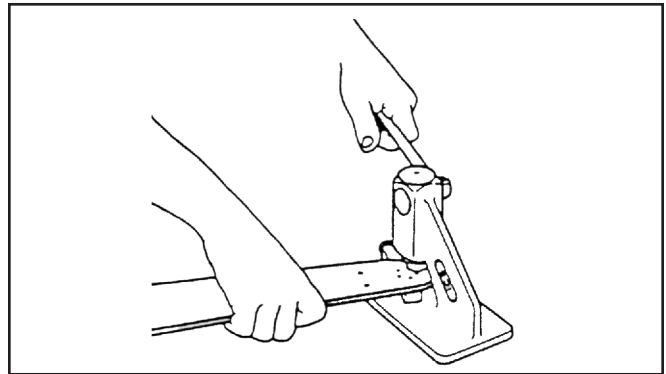

Figure 25. Punching Out Nose Sprocket Rivets
1. Using the bench mounted chain breaker (see accessories), line up the 1/4 inch hole in the side of the chain breaker anvil with the chain breaker punch. Punch out the six nose sprocket rivets. See Figure 25.